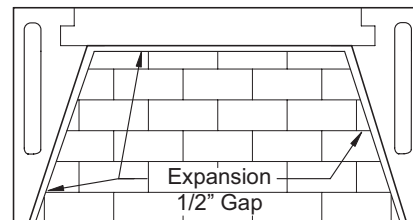

FIGURE 27
3. Start the firebrick at the front edge of the floor of the Isokern firebox, proceeding inward toward the back. Let the floor brick gap approximately 1/2" off the back wall and side walls. This air space allows heat expansion of the firebrick and is to be left empty of mortar. **(Figure 27)**